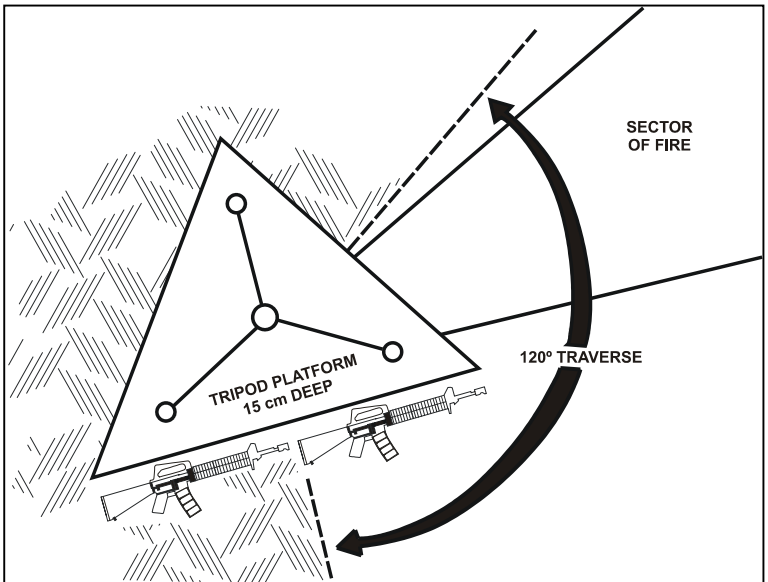

Figure 2-13-2: TOW Trench Weapon Platform
15. **Step 1—Weapon System Platform.** In this step, a triangular hole is dug 2 x 2 x 2 metres with the base of the triangle being perpendicular to the enemy's advance. The depth of this hole should be 15 cm. (See Figure 2-13-2). This hole allows the weapon system to be set up with the tripod in the medium position and still maintain the minimum 23 cm (9 inch) clearance between the end of the launch tube and the ground. The digging of a small depression is required to accommodate the missile guidance set (MGS). It is not recommended that the tripod be set up in the high position as this will either result in a high weapon silhouette or in needless digging. Shellscrapes for the No. 2 and No. 3 may be dug perpendicular to their respective sides of the triangle.